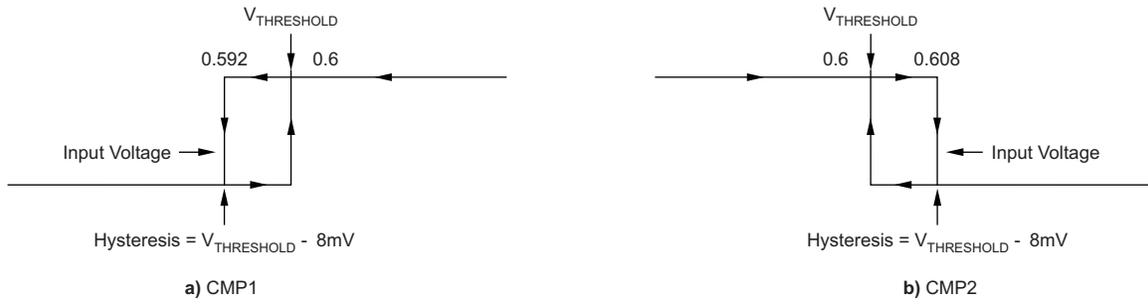

Figure 1. Comparator Hysteresis
| Offset Voltage | Comparator Common-Mode Voltage = Threshold Voltage, Figure 1 | | 2 | | mV |
(1) Hysteresis refers to the threshold (the threshold specification applies to a rising edge of a noninverting input) of a falling edge on the noninverting input of the comparator. See Figure 1.
(2) Specified by design.
(3) The comparator response time specified is the interval between the input step function and the instant when the output crosses 1.4 V.
(4) RESET input has an internal 2 M Ω (typical) pull-down. Leaving RESET open results in a LOW state, with transparent comparator operation.